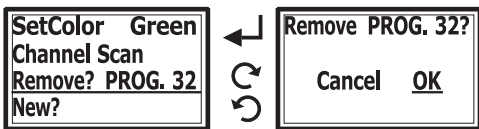

Fig. 22
- (1) Icon "T" displays current working transmitter.
- (2) Icon "T" displays channel occupied by other MIPRO working transmitter.
- (3) Icon "I" displays a severe interference channel.
- (4) Icon "I" displays a lesser interference channel.
- (5) Icon "10" indicates the current selected channel.
(N) Remove ? function, Fig. 22: